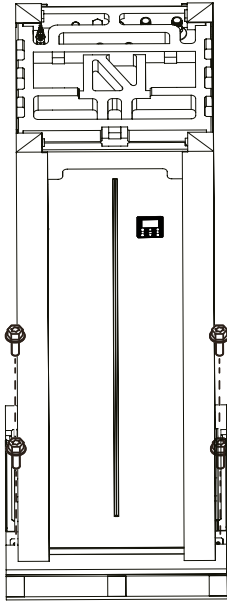

Fig. 2-3
- Remove the 4 screws of the wooden base (Refer to Fig.2-3).